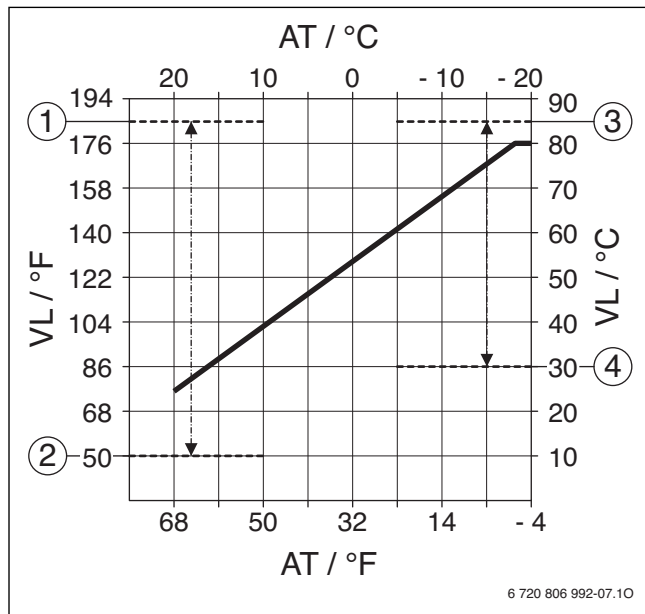

Fig. 63
- ▶ Set accordingly (→ Fig. 63).